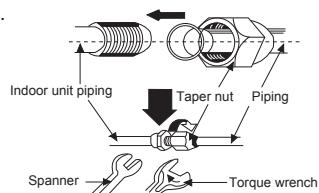

Fig.4
3. Hang the mounting slots of the indoor unit on the upper tabs of the rear panel and check if it is firm enough. (As show in Fig.4)